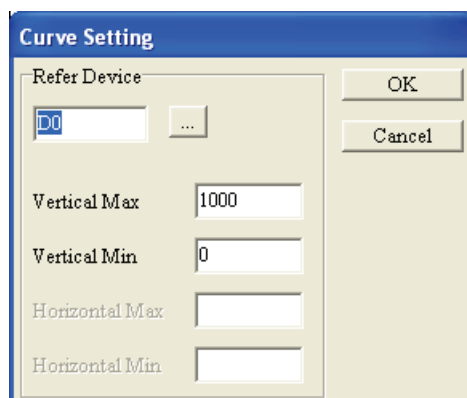

Figure 1-106
Step 1. After choose **Object(O) > Curve(N)** command from the menu bar or click the icon  on the toolbar to create a Curve object on the screen. Double-click the selected object by using the mouse, the following Curve Setting tab will pop up (Figure 1-106).